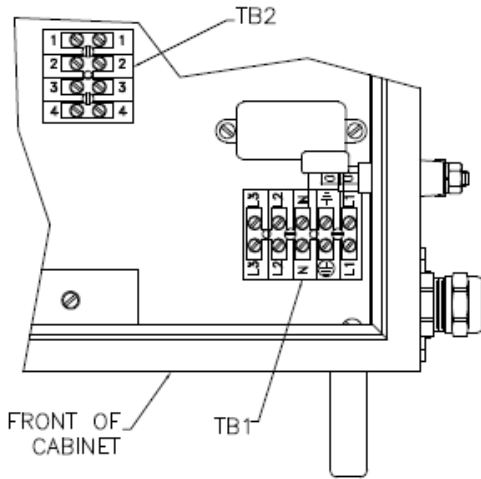

Figure 5: Location of TB1 & TB2 in Controller
1. **Ensure the AC line cord is unplugged** and remove the AC inlet receptacle wiring from TB1-N, TB1-L1 and TB1-EARTH GROUND (See Figures 5).